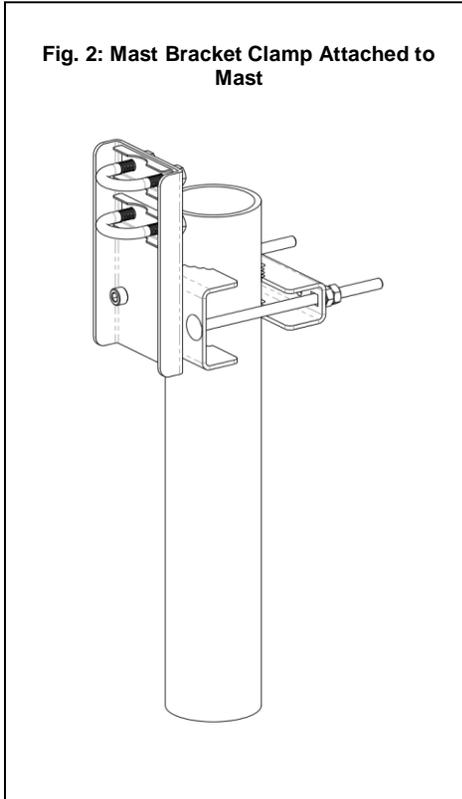

Fig. 2: Mast Bracket Clamp Attached to Mast
- 2 Install the Mast Bracket Clamp to the mast at the desired elevation and approximately pointing in the proper direction as shown in Fig. 2, and hand tighten the Carriage Bolts (Item 7) and associated hardware. Verify orientation is as required, then torque the Carriage bolts and associated hardware to 20 N·m (15 ft-lbs).